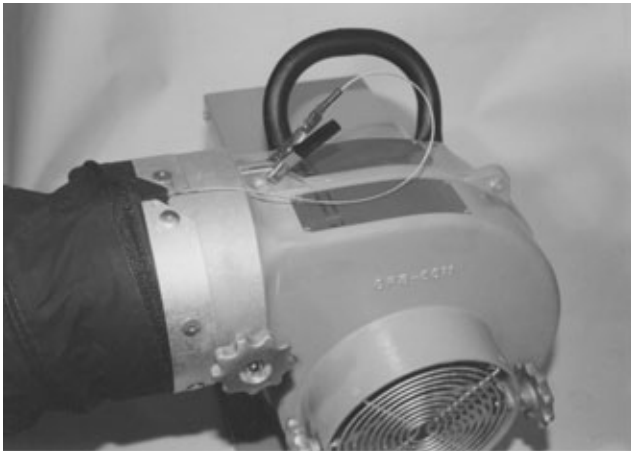

FIGURE 5
1) For normal exhaust (air blowing) operations, install the part number SCFD815 or SCFD825 statically conductive duct to the Blower outlet. FIGURE 5. The EP8HL Blower is designed to utilize only factory supplied, statically conductive ducts. If it is determined that the statically conductive duct can not be installed on the Blower by the procedure below, contact the Customer Service Department for assistance BEFORE utilizing the Blower. There is no charge for this service.